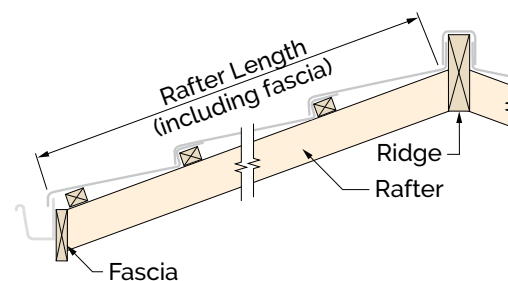

Figure 2.2.1
- I. Determine the rafter length (**Figure 2.2.1**) and calculate the number of courses of tiles using formula **1** or from **Table 2.2.1**.